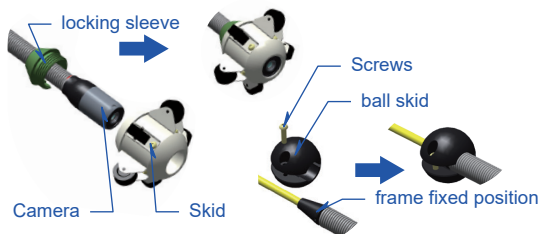

Figure 16. 134 Roller skid
- 2) Install the 134 skid and 60 ball skid. (Figure 16)